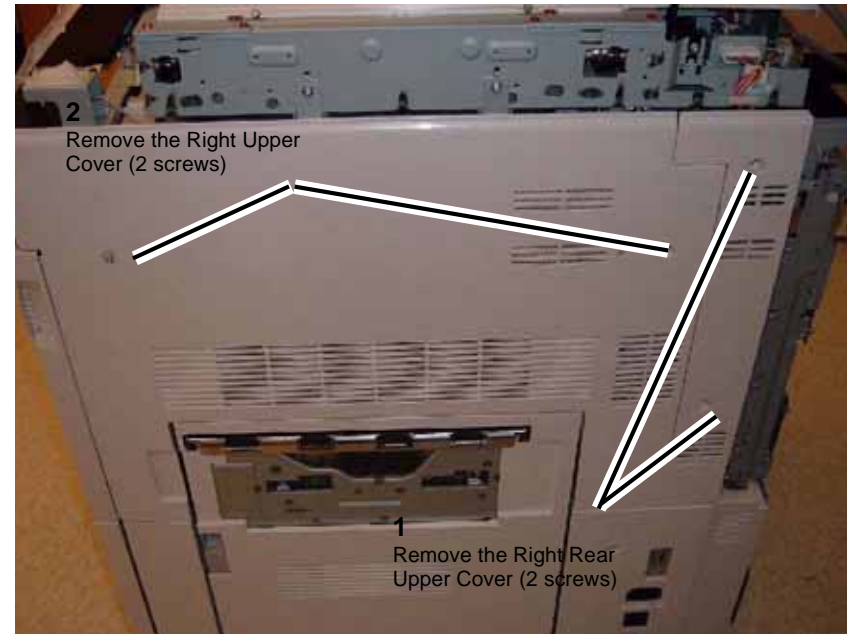

Figure 5 Removing the Right Rear Upper Cover and the Right Upper Cover
10. Remove the Right Rear Upper Cover and the Right Upper Cover (Figure 5).